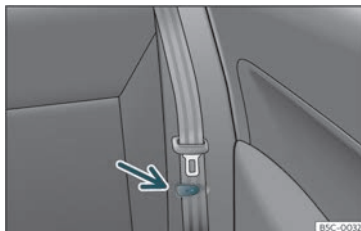

Fig. 110 Rear seat: clip to hold the seatbelt in place.
- Place the side seat belts in the trim clip »» **Fig. 110**.